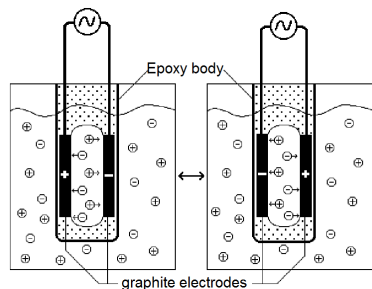

Figure 1
To prevent complete ion migration and ensure accurate measurements, an alternating current (AC) is supplied to the electrodes. With each cycle of the AC, the polarity of the electrodes is reversed, which reverses the direction of ion flow (see Figure 1). This critical feature prevents most electrolysis and polarization at the electrodes, ensuring that the solutions being measured do not become fouled. It also significantly reduces the formation of redox products on the electrodes, maintaining the accuracy and longevity of the sensor. To ensure accurate salinity measurements, the sensor compensates for temperature variations, as conductivity typically increases with temperature. A temperature sensor measures the water's temperature, and the data processor adjusts the conductivity reading based on known temperature-conductivity relationships. The adjusted conductivity value is then converted to a salinity value using standard conversion formulas or tables, such as the Practical Salinity Scale (PSS-78). The sensor then displays the salinity value, by default in parts per thousand (ppt), providing a reliable measure of the salinity of the water sample.